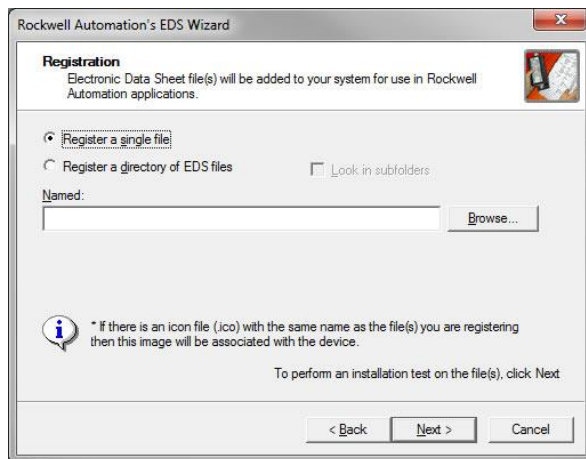

Figure 17: EDS Registration
- 4) The “Registration” dialog will appear. Refer to Figure 17. Click “Browse”, select the interface card’s EDS file, and click “Next”.